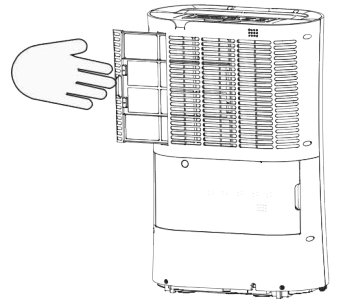

Fig. 6
3. Remove the pre-filter (12) and the carbon filter cartridge (14) sliding them out from the inlet grille (7) (Fig.6) Dust the pre-filter (12) with a soft brush, wash it in water with a detergent and then rinse and dry. In the case of persistent grime, repeat the cleaning process. Dust the cartridge with a soft brush but do not wash it. Replace the filters after cleaning. Install the carbon filter cartridge (14) in the central part of the pre-filter (12) using the installed hooks. Clean every 2-3 weeks. If mechanical damage is found, replace the filters.